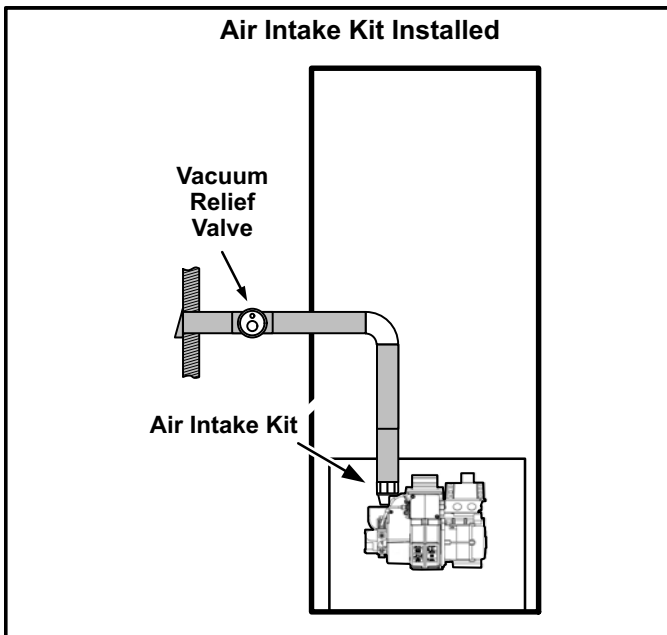

Figure 8
**NOTE - DO NOT install the barometric draft control if the furnace is equipped with an air intake kit. See figure 8.**